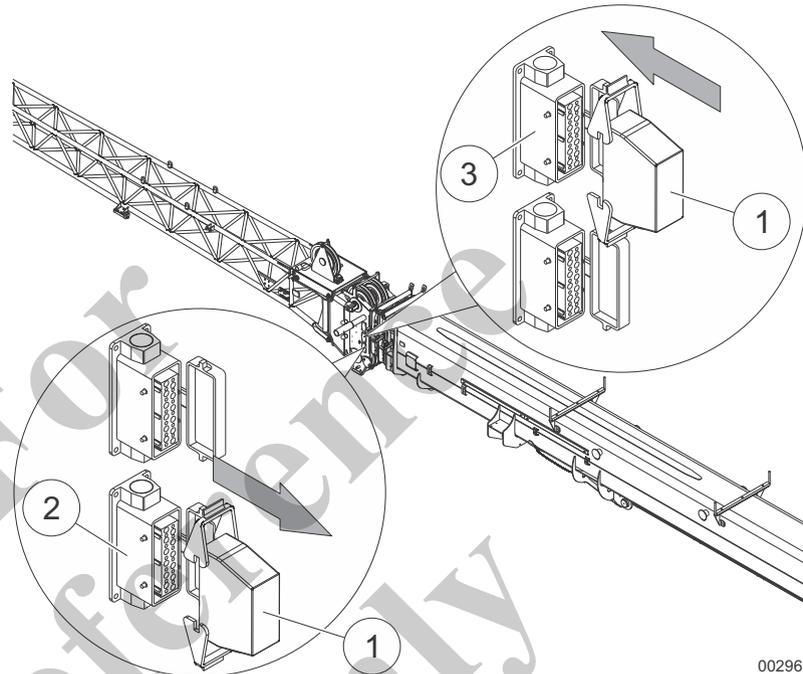

Fig. 114 Inserting the bypass plug on the telescopic boom
| 21 | Remove the bypass plug (1) in Fig. 114 from the lower socket (2) in Fig. 114 and insert it into the upper socket (3) in Fig. 114. |